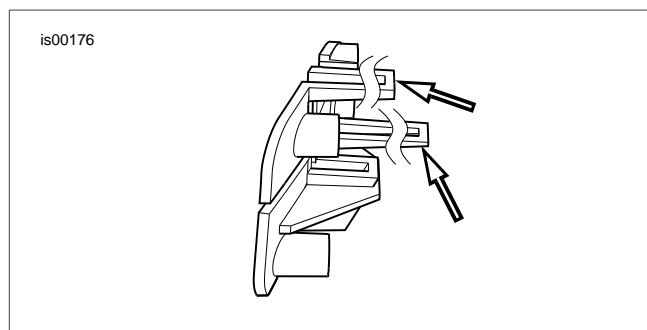
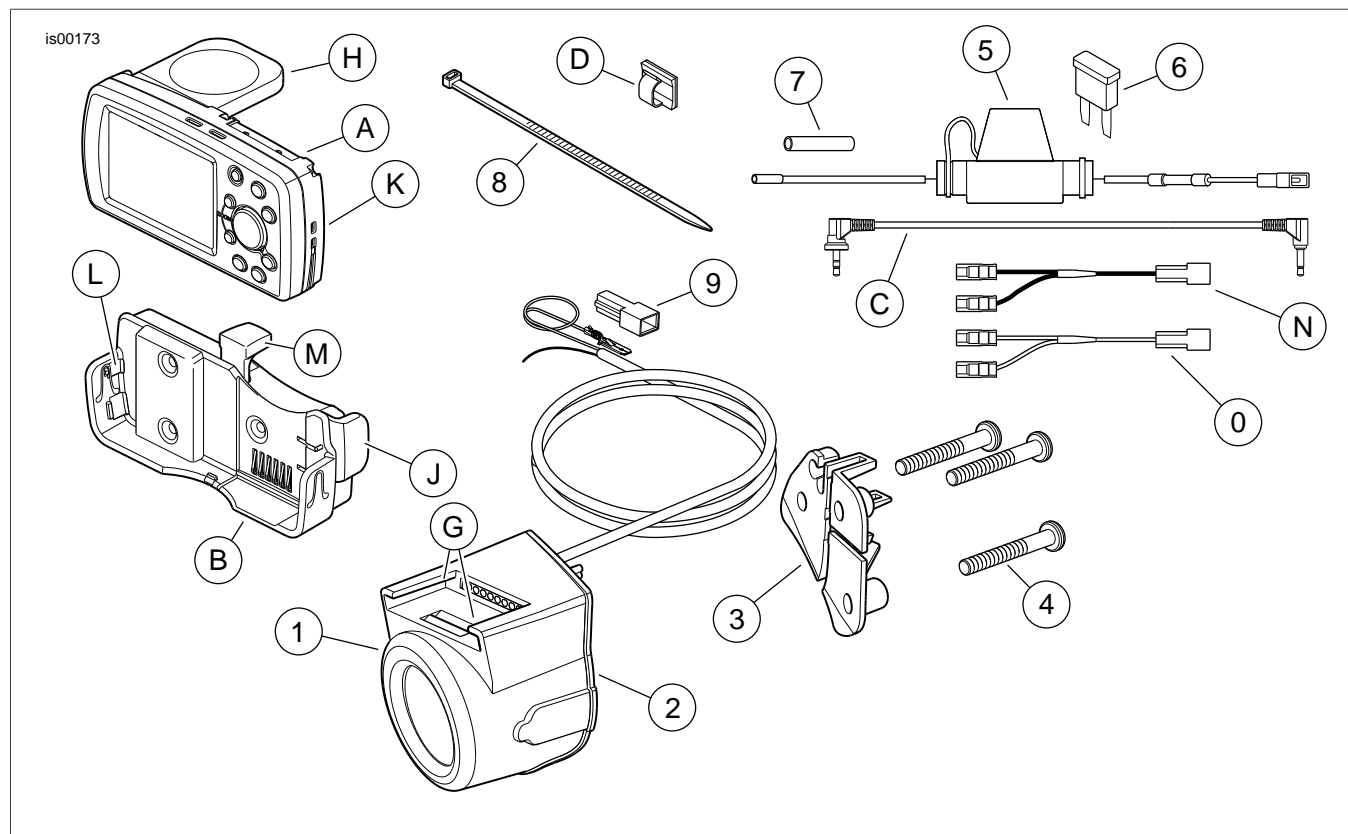

Figure 3. Clip Off Two Upper Bridges
Figure 5. Service Parts, J03554
See Figure 5 and Table 1.
3. See Figure 5. Obtain the Hot Shoe back plate (3) from the kit.
7. See Figure 5. Obtain the Hot Shoe (1) from the Road Tech Quest GPS System Kit. If the gasket (2) is loose, fit the gasket to the rear of the Hot Shoe. Feed the wire harness connected to the Hot Shoe through the larger hole drilled in Step 6. Seat the Hot Shoe to the fairing.
8. Position the back plate (3) as had been done in Step 4, fitting the wire harness into the slot next to the upper right hole.
9. Fasten the back plate through the fairing to the Hot Shoe with the three screws (4) from the kit. Tighten the screws securely.
10. See Figure 3. Using a diagonal cutter, clip the two upper "bridges" on the back plate to avoid interference with the windshield.
11. See Figure 5. Obtain the fuse holder harness (5) and heat shrink tube (7) from the kit. Slide the heat shrink tube onto the black wire on the fuse holder harness.
- Remove the tape tying the black (1) and orange/ white (2) wires of circuit [29B] to the interconnect harness.
- See Figure 5. Obtain tab housing (9) from the kit. Fit the housing onto the tab terminal on the black wire from the GPS mount.
- See Figure 5. Obtain the multiple accessory Y-harnesses (items N and O) (purchased separately).
16. Obtain the 2 Amp fuse (6) from the kit, and open the cover of the fuse holder on the fuse holder harness. Plug the fuse into the fuse holder, and close the cover.
17. Plug the 3.5 mm stereo jack (with rubber boot attached) on the speaker/ audio cable (C) into the AUX-IN port on the front of the radio.
1. See Figure 5. Obtain the Road Tech Quest unit (A) and cradle mount (B) from the Road Tech Quest GPS Kit (sold separately).
2. Rotate the antenna (H) on the Road Tech Quest unit upward **at least** 90 degrees. Slide out the locking lever (J) located on the right side of the cradle mount.
3. Position the Road Tech Quest unit above the cradle mount, aligning the slots (K) on the sides of the unit with the tabs (L) on the inside of the mount.